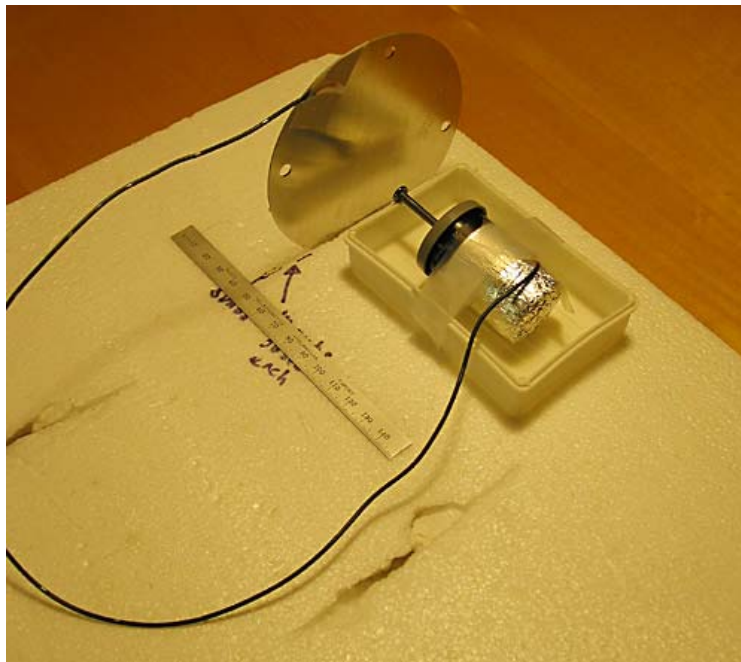

Figure 6. Testing assembly.
- Small piece of an aluminum sheet (an aluminum cover for an electrical box works well, as in Figure 6 below); available at hardware stores
1. Wedge the piece of aluminum sheet upright into the Styrofoam sheet. The aluminum piece should be perpendicular to the Styrofoam sheet. See Figure 6.